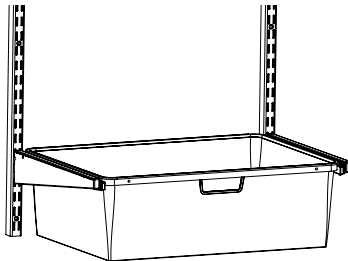

Figure 6
STEP 7: Place the wire mesh baskets into their surround assemblies (**Figure 6**).